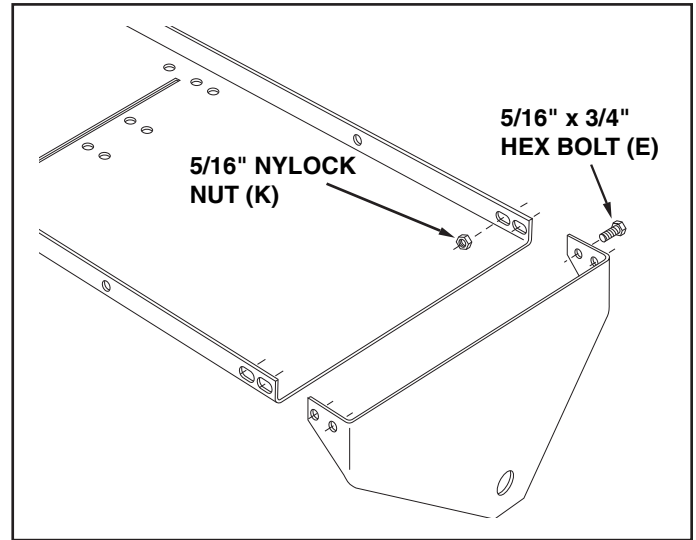

FIGURE 6
9. Assemble an end plate to the end of the tray using four 5/16" x 3/4" hex bolts and four 5/16" nylock nuts. Repeat for other end. **Do not tighten till step 20.** See figure 6.